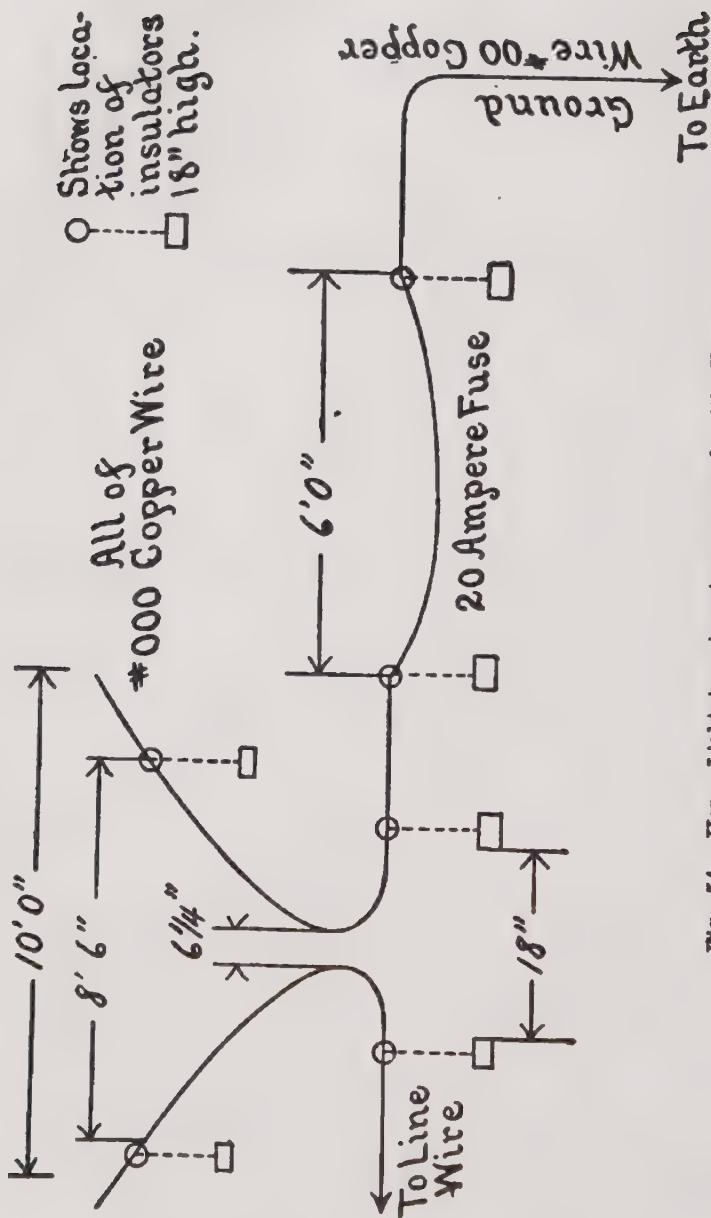

Fig. 54. Horn Lightning Arrester arranged with Fuse.
*Answer.* A horn arrester is as shown in Fig. 54. A single spark gap whose length is regulated by the pressure it is designed to withstand (say  $6\frac{1}{4}$  inches for 9000 volts) has a wide spreading pair of horns attached, the ends being perhaps twelve feet apart.